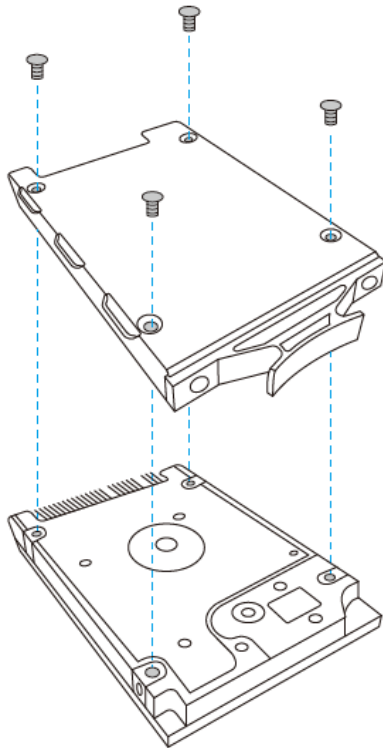

Figure 3-5: HDD Tray Installation
Step 3: Attach the drive to the tray and secure the four screws in the back of the drive tray (Figure 3-5).